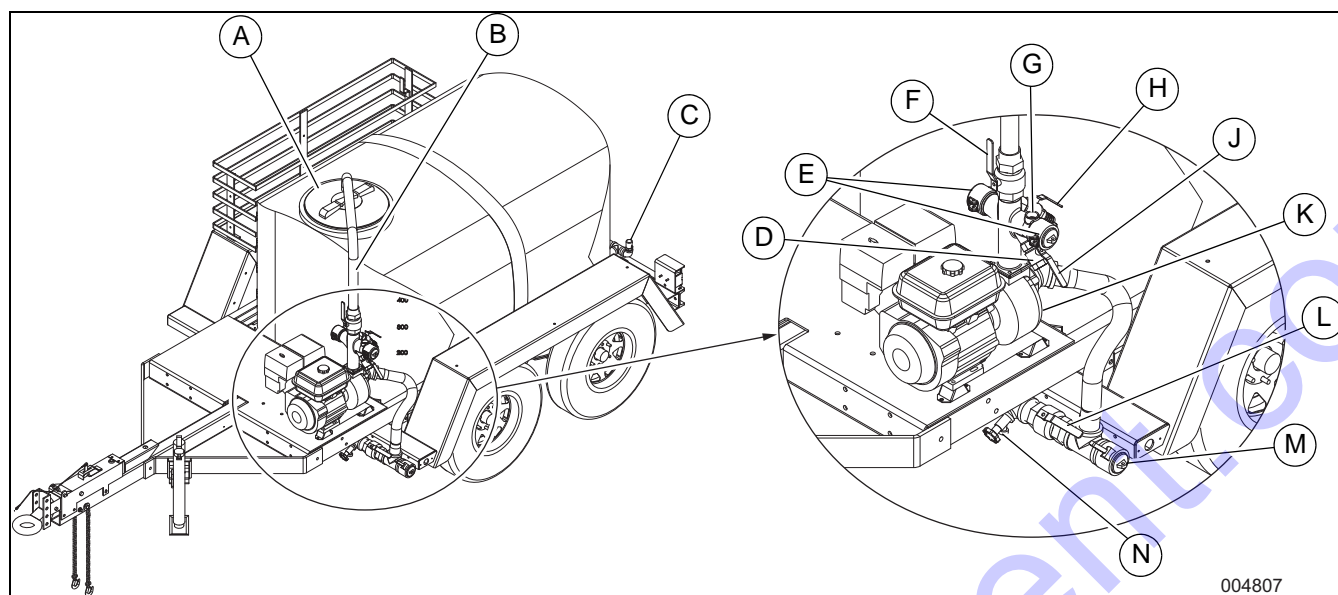

Figure 2-3. Components for Filling and Discharging Water Tank
1. See **Figure 2-3**. Remove tank cover. Open valve 1. Close valves 2, 3, and 4. Close gravity drain bibb.
1. See Figure 2-3. Remove tank cover. Open valve 1. Close valves 2, 3, and 4. Close gravity drain bibb.
2. See Figure 2-3. Open valve 4. Close valves 1, 2, and 3. Close gravity drain bibb.
1. See Figure 2-3. Close valves 1, 2, 3, and 4. Close gravity drain bibb.
1. See Figure 2-3. Close valves 1, 2, 3, and 4. Close the gravity drain bibb.